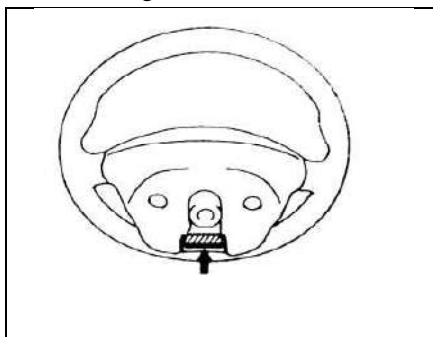

Fig 19-15
(1) Steering wheel(See fig 19-15)